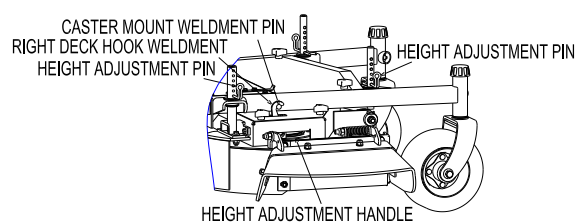

FIG 8
- Insert height adjustment pin into the hole corresponding to desired cutting height. See decal on deck lift plate. Move lever out of transport position and down onto height adjustment pin to mow at selected height. See FIG 8.